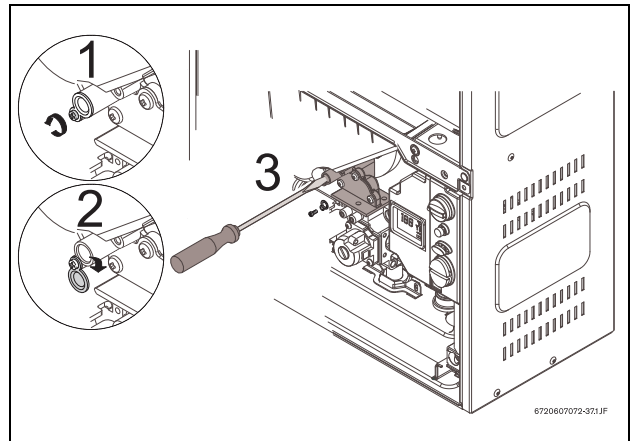

Fig. 2
- ▶ 6. Loosen yellow painted Philips screw and cover should rotate down revealing a brass slotted screw (Fig. 2).
- ▶ 2. Turn slotted brass screw 3.5 turns counter clockwise (Fig. 2).
- ▶ 2. Turn slotted brass screw 3.5 turns clockwise (Fig. 2).
- ▶ 2. Rotate brass slotted screw cover up and tighten yellow painted Philips screw (Fig. 2).